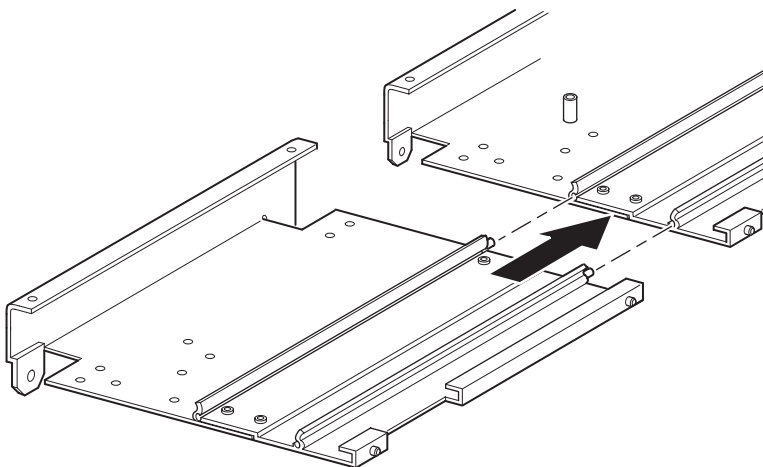

Figure 17 Mounting a 5U or 10U extension
9. Mount a 5U or 10U extension as follows (see Figure 17):